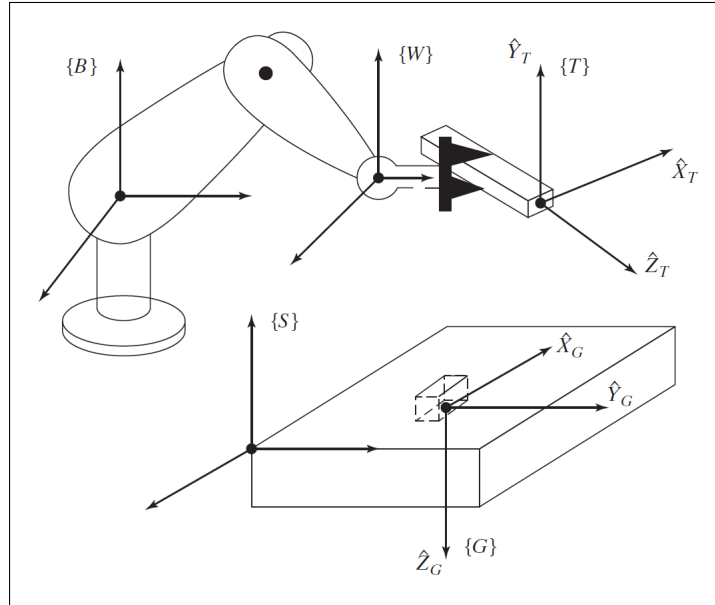

Figure 3: Determination of the tool frame
**Answer:** Consider below Figure 3